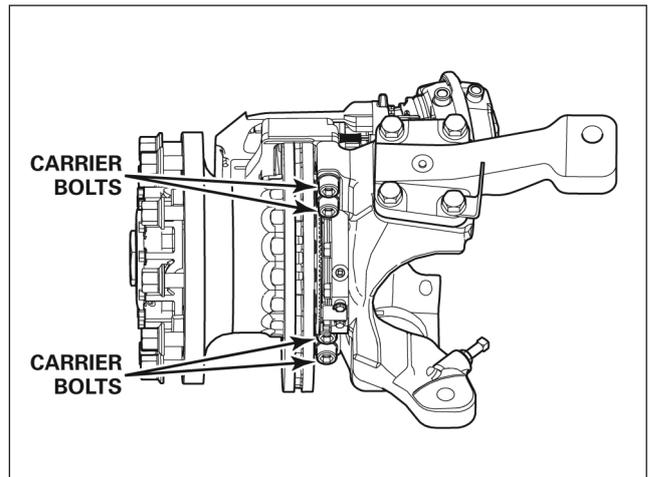

Fig. 1.15
4. Use a 17mm Allen-head socket wrench to remove the carrier bolts and washers. Fig. 1.15. Use an appropriate lifting device to carefully remove the caliper assembly from the axle.